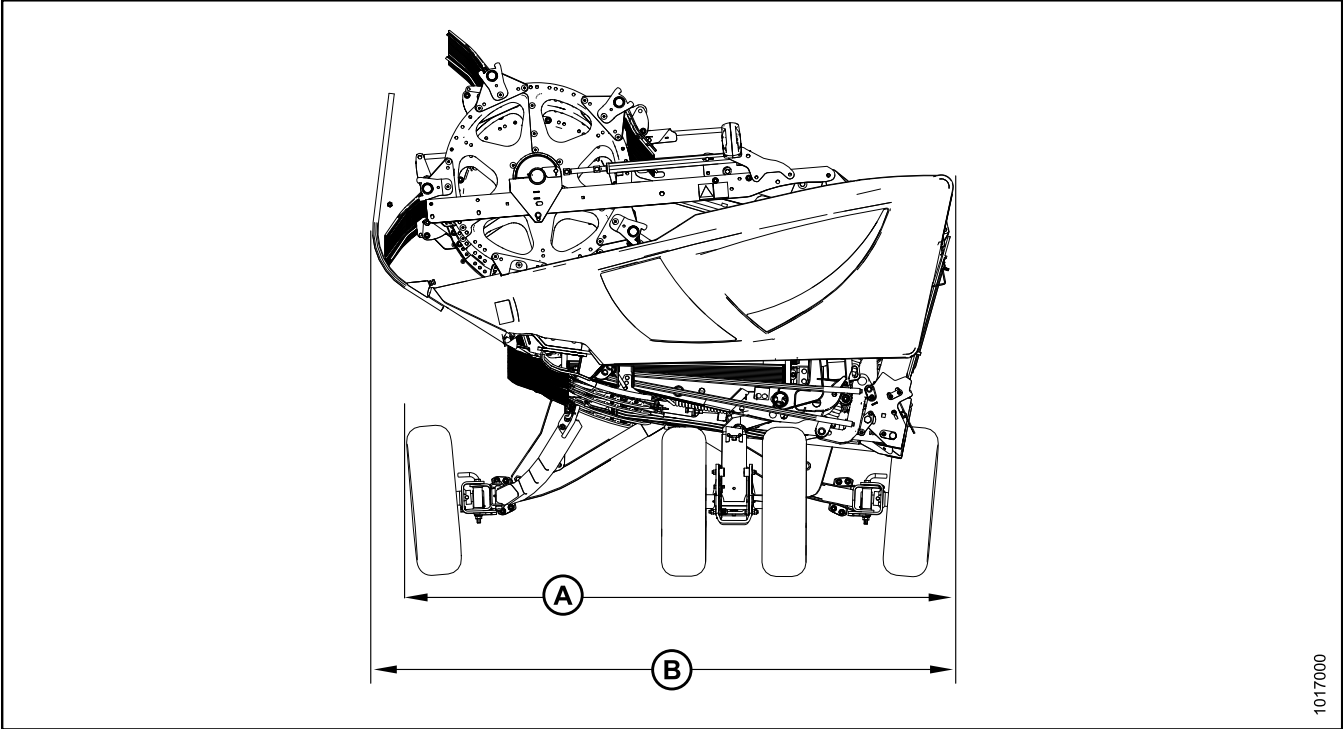

Figure 2.1: Header Width
2. Refer to Figure 2.1: Header Width, page 23.